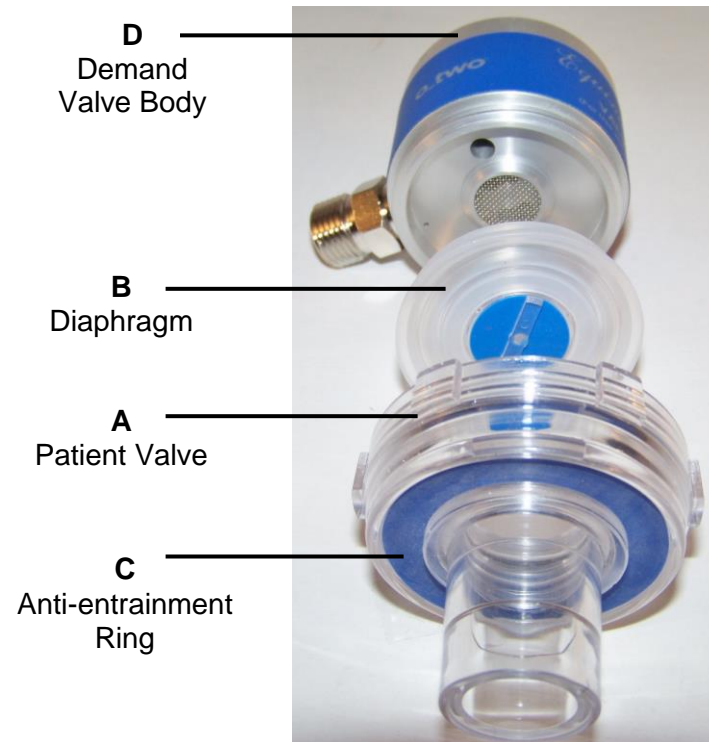

Fig.1
4. Unscrew patient valve (A) from the unit body being careful to ensure that the diaphragm (B) is retained (Fig1).
5. Remove the diaphragm and anti-entrainment ring (C) from the patient valve swivel housing and wash these components thoroughly in a mild soap solution;
8. The demand valve body (D) and gas supply hose can be wiped over with a soft cloth and mild soap solution.